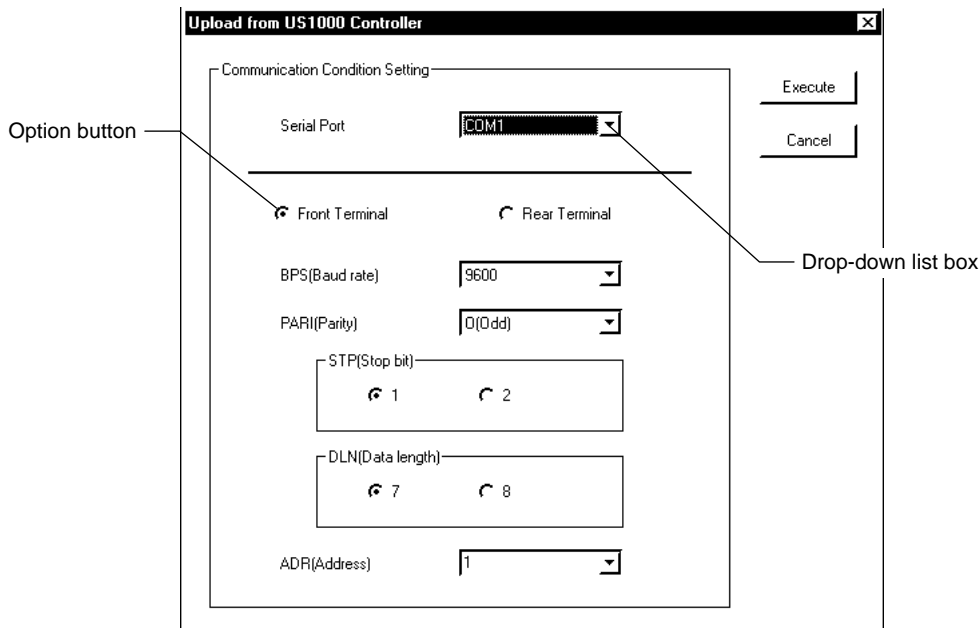

Figure 4.1.6 [Upload from US1000 Controller] Dialog Box
- ④ If you are configuring a custom computation by uploading data from the US1000 controller, choose <Upload from US1000 Controller>. Click the <Upload from US1000 Controller> option button, and then the <OK> button. The [Upload from US1000 Controller] dialog box (Figure 4.1.6) appears.
If you choose <Upload from the US1000 Controller> in the [New/Modification] dialog box, the [Upload from US1000 Controller] dialog box (Figure 4.1.6) appears.